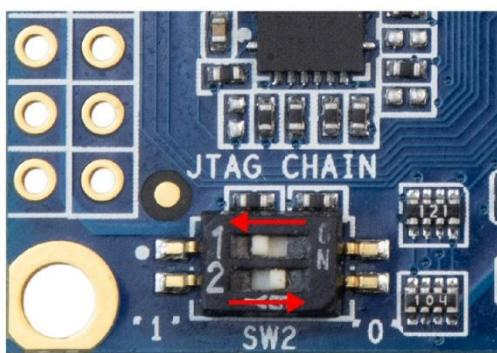

Figure 3-16 SW2 Setting
- Set SW2.1=1 and SW2.2=0 as **Figure 3-16** to ensure MAX10 is off JTAG chain, and RISC-V is on JTAG chain.